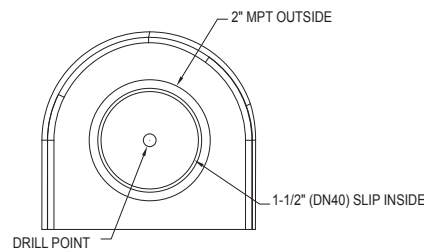

Figure 3.2
- 1) Adding bathroom fixtures - The Qwik Jon[®] Ultima is designed to accept bathroom fixtures utilizing the two side inlets. These inlets can be attached via the 2" MPT (outside diameter) or the 1-1/2" (DN40) slip (inside diameter). These inlets must have the inner portion drilled out using a 1-3/4" (44 mm) hole saw (see Figure 3.2). This is to ensure there are no leakage problems from inlets not in use. When utilizing side inlets, install a check valve on the incoming line.